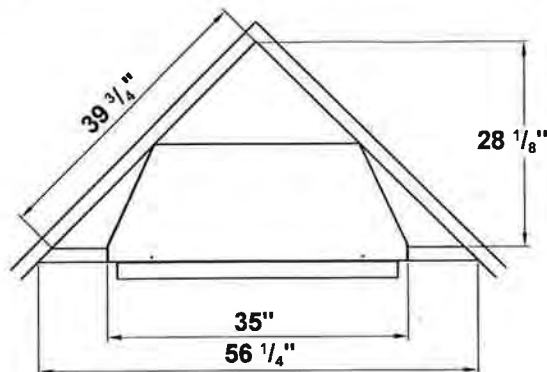

Figure 10 - Rough Opening for Corner Installation
1. Frame in rough opening. Use dimensions shown in Figure 8 for the rough opening. If installing in a corner, use dimensions shown in Figure 10 (page 13) for the rough opening. The height is 23 1/4", which is the same as the wall opening above.